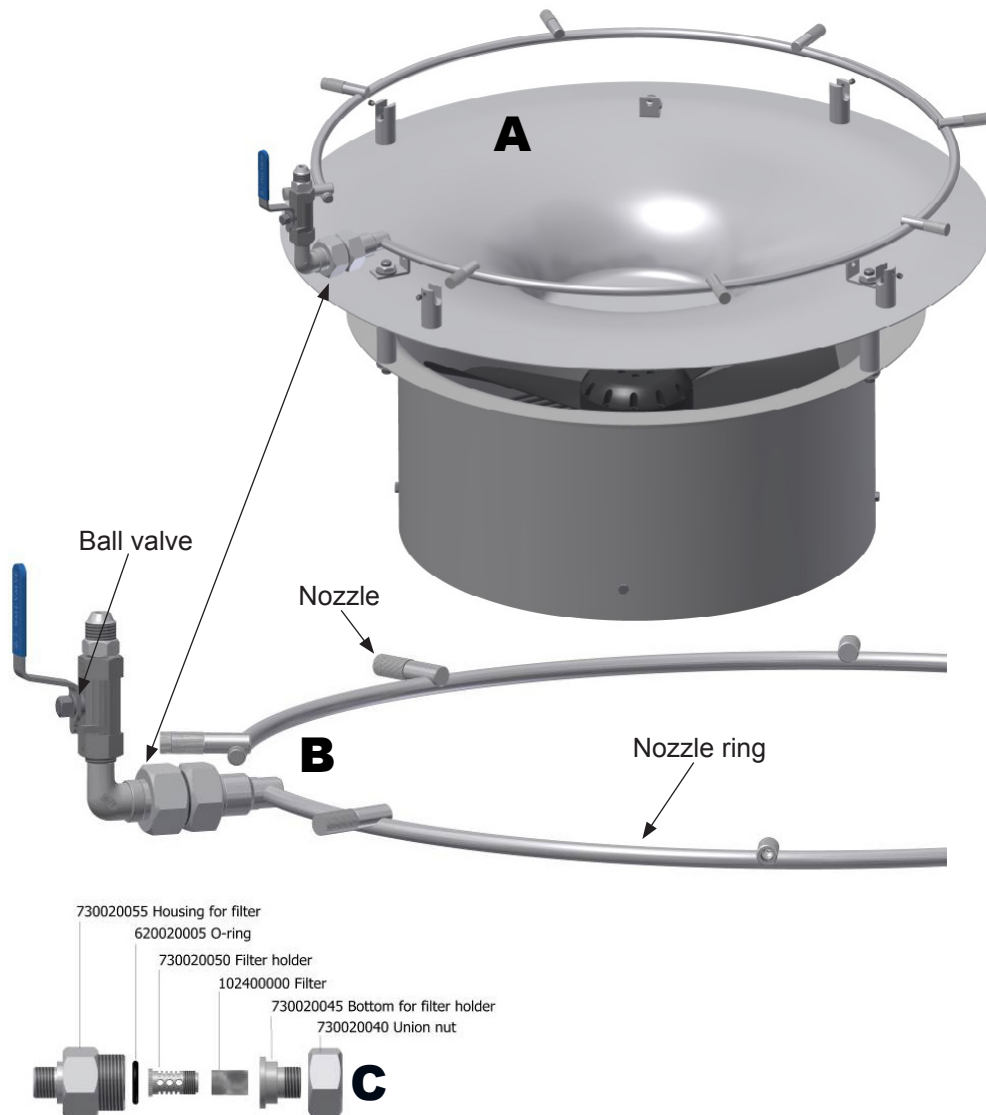

Figure 3: Assembling Princess 2
- C. In the event the ball valve does not come fully assembled. Assemble ball valve and filter union as shown in Figure 3. Make sure that the filter fixture is attached securely and the O-ring is in place before assembling the filter union. Close the ball valve when the unit is finally mounted.